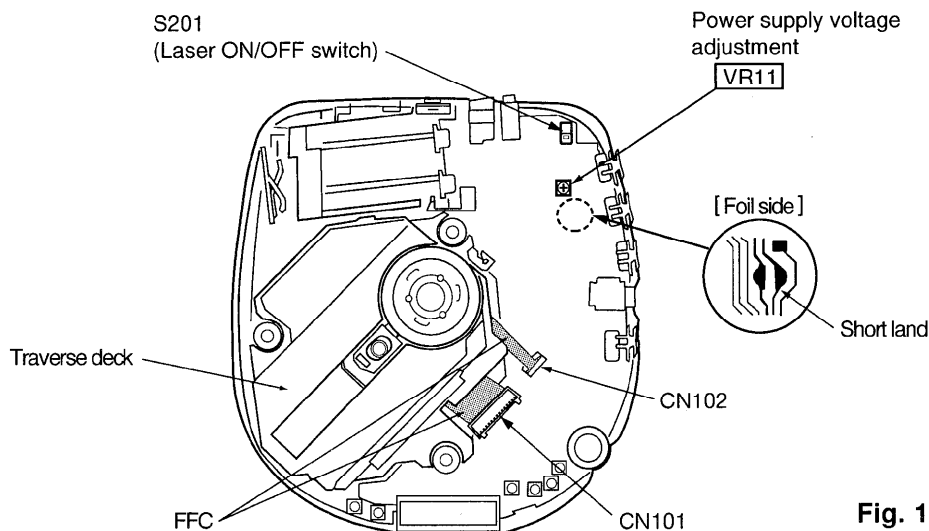

Fig. 1
Short-circuit the lands of the laser ON/OFF switch (S201) by soldering them. It turns “ON” position. (Refer to below **Fig. 1** or printed circuit board and wiring connection diagram for short land location on page 20.)
2. Take care to connect CN101 and CN102, as shown in **Fig.1**.
4. Adjust VR11 on the P.C.B. at 3.10 ~ 3.14 V, as shown in Fig. 1.
Fig. 1 is a block diagram showing the compression-shockproofing mechanism, the difference of which from the conventional mechanism is as follows: Input information read out at double speed undergoes data compression (16 bits → 4 bits) by the encoder in the ADPCM (Adaptive Difference PCM) and stored in the external memory; the stored memory information undergoes data elongation (4 bits → 16 bits) by the decoder in the ADPCM and supplied at normal speed to the D/A converter.